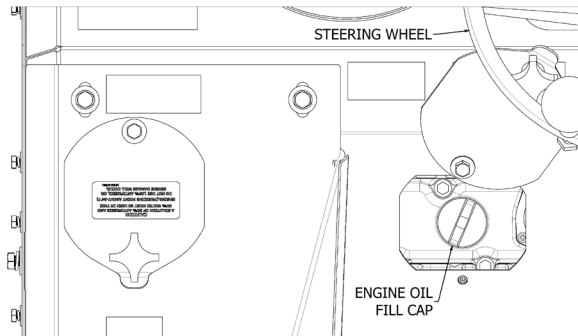

Figure 5.8 – Engine Oil Fill Cap
4. Locate the engine oil fill cap. See Figure 5.8. Remove the cap and replace the oil. Re-install the oil fill cap. Refer to the Engine Owner's Manual for specific engine oil recommendations.